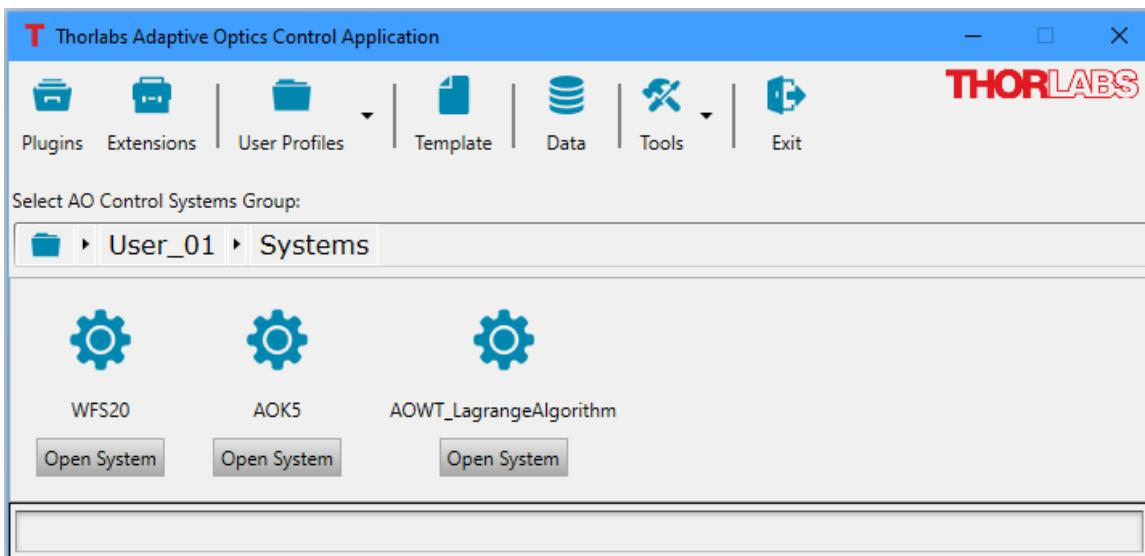

Figure 90 The main Control Application window now shows the newly added AOWT_LagrangeAlgorithm system icon.
8. Clicking the **Ok** button in the User Profile window will cause the Main window to update. An icon will appear in the lower section of the window when the Control System Group within the User Profile within which the system was created is selected. See Figure 90.